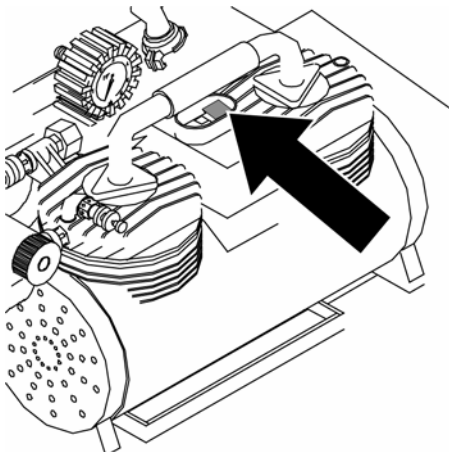

Fig. 38: Switching off the compressor
5. Switch off the compressor via the red button (Fig. 38/arrow).